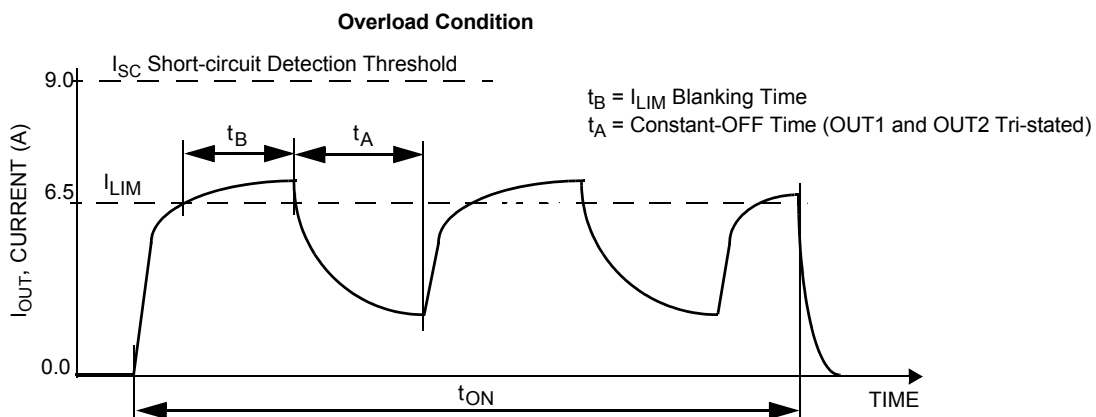
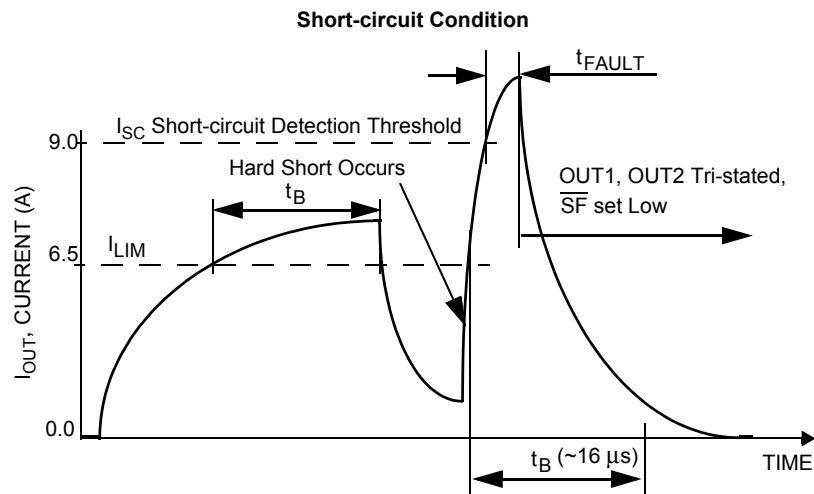
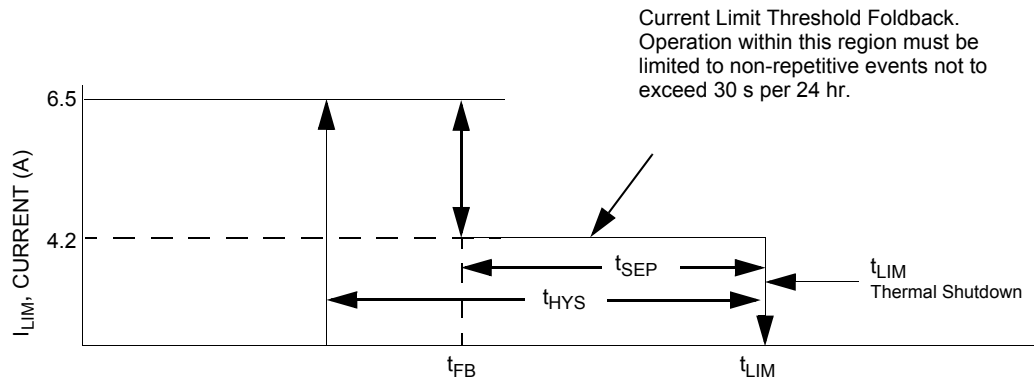

Figure 7. Current limit blanking time and constant-off time
Figure 8. Short-circuit detection turn-off time t_{FAULT}
Figure 9. Output current limiting foldback region
28. Load currents ramping up to the current regulation threshold become limited at the I_{LIM} value (see Figure 7). The short-circuit currents possess a di/dt which ramps up to the I_{SCH} or I_{SCL} threshold during the I_{LIM} blanking time, registering as a short-circuit event detection and causing the shutdown circuitry to force the output into an immediate tri-state latch-OFF (see Figure 8). Operation in Current Limit mode may cause junction temperatures to rise. Junction temperatures above $\sim 160\text{ }^{\circ}\text{C}$ causes the output current limit threshold to “fold back”, or decrease, until $\sim 175\text{ }^{\circ}\text{C}$ is reached, after which the t_{LIM} thermal latch-OFF occurs. Permissible operation within this fold back region is limited to non-repetitive transient events of duration not to exceed 30 seconds (see Figure 9).